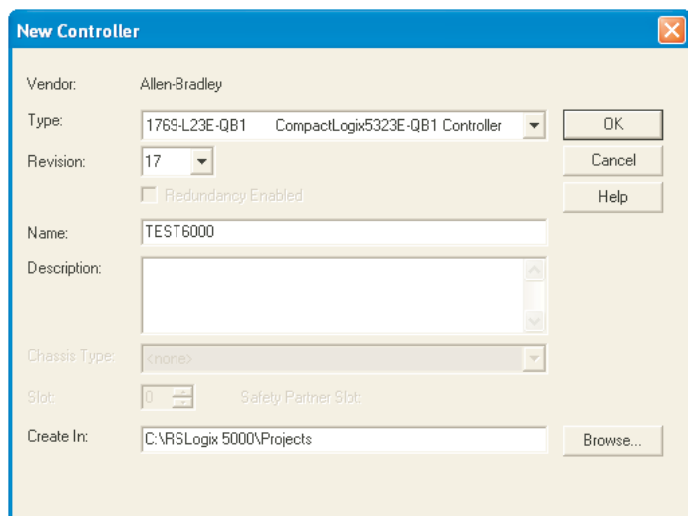

Figure 4.3.21g New Controller window
1. In the 'File' menu select 'New', or click on the 'New Tool' icon . The 'New Controller' window opens (figure 4.3.21g).